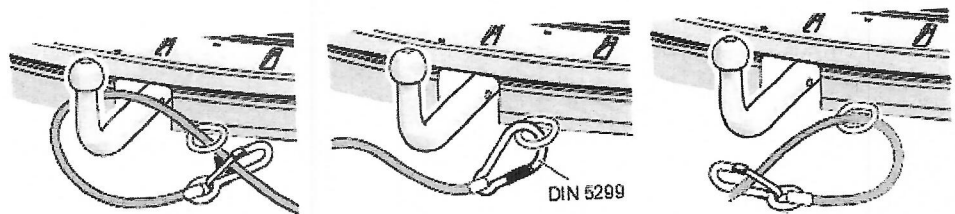

Figure 19 - Breakaway cable
3. Attach the breakaway cable to a suitably strong point on the vehicle (Figure 19)